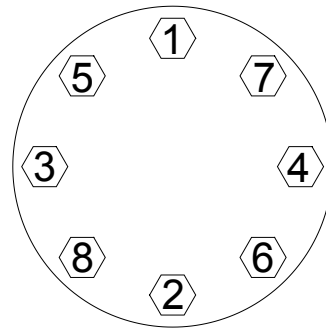

Figure 5: Typical Bolting Pattern
13. Apply lubricant to the body stud bolts (Figures 2 and 3, Key 9) and the hex nuts (Figures 2 and 3, Key 8). Thread the nuts onto the body stud bolts using good bolting practices. Refer to Table 3 for proper bolt torques and tighten the nuts in a criss-cross pattern (See Figure 5). When the control valve assembly reaches operating temperature, repeat the procedure. Proper tightening of the bonnet nuts ensures a positive sealing of the cage seals and the spring seal.